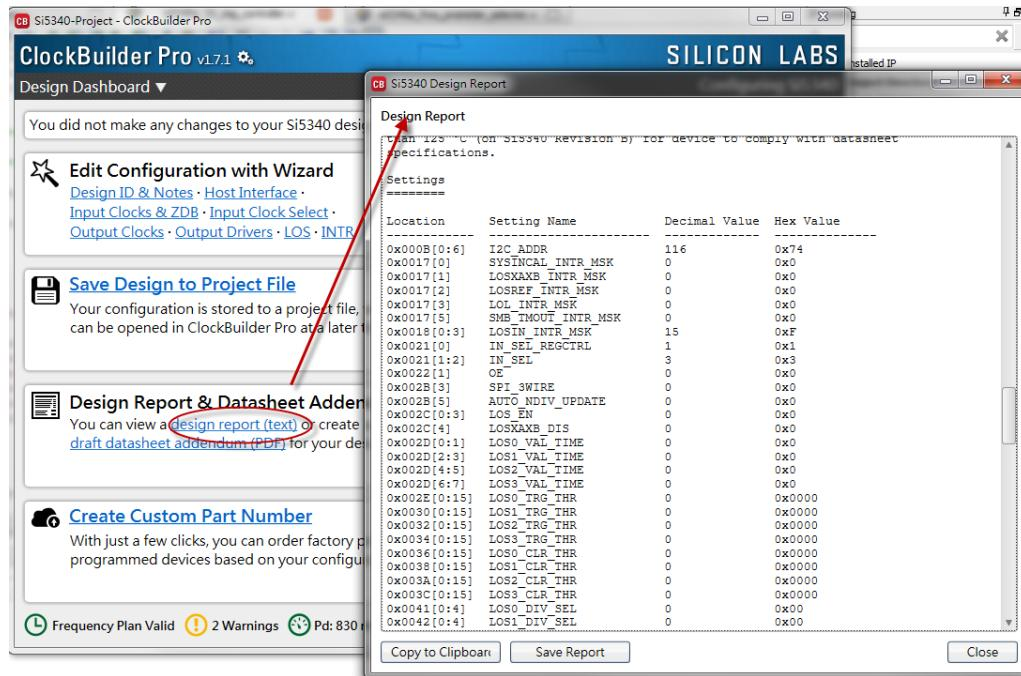

Figure 5-8 Open Design Report on ClockBuilder Pro Wizard
3. After the setting is completed, ClockBuider Pro Wizard generates a Design Report(text), which contains users setting frequency corresponding register value (See **Figure 5-8**).